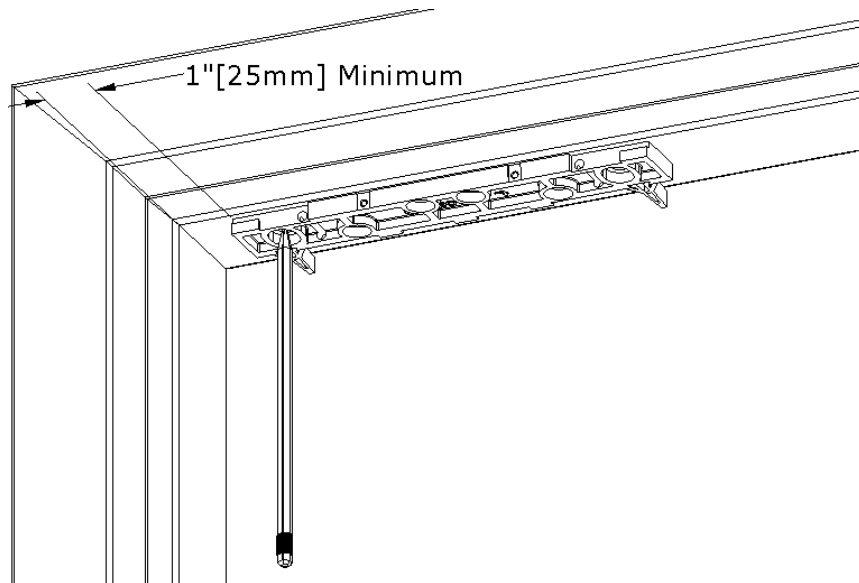

Figure 7. Marking the Frame
- d. MARK the frame through the two (2) oblong bracket mounting holes (see Figure 7, "Marking the Frame").